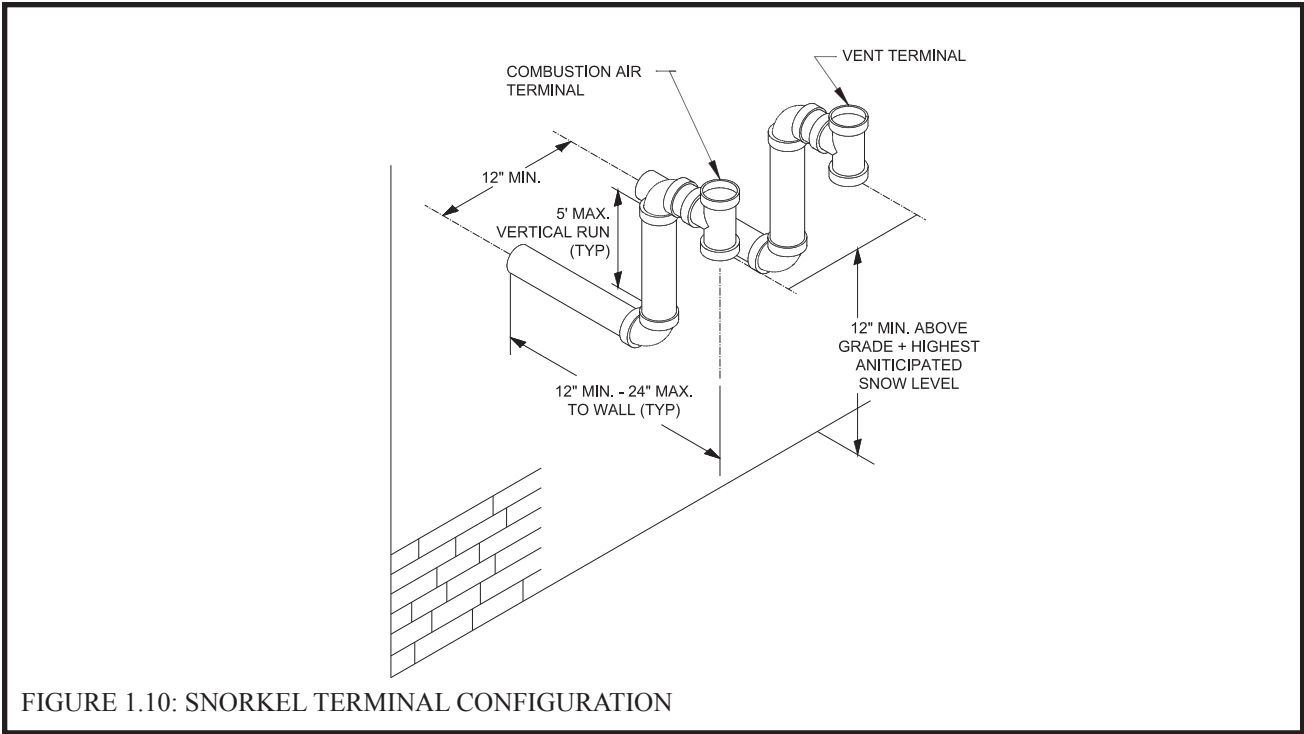

FIGURE 1.10: SNORKEL TERMINAL CONFIGURATION
- PVC Tees on Snorkels - If desired, the PVC Tees terminations may be installed on snorkels as shown in Figure 1.10. When this is done, all exterior piping except for the termination Tees themselves must be counted when calculating the equivalent length. The maximum vertical run of the snorkel is 5ft. Observe all restrictions on the location of the Tee terminal described in Paragraph 6.